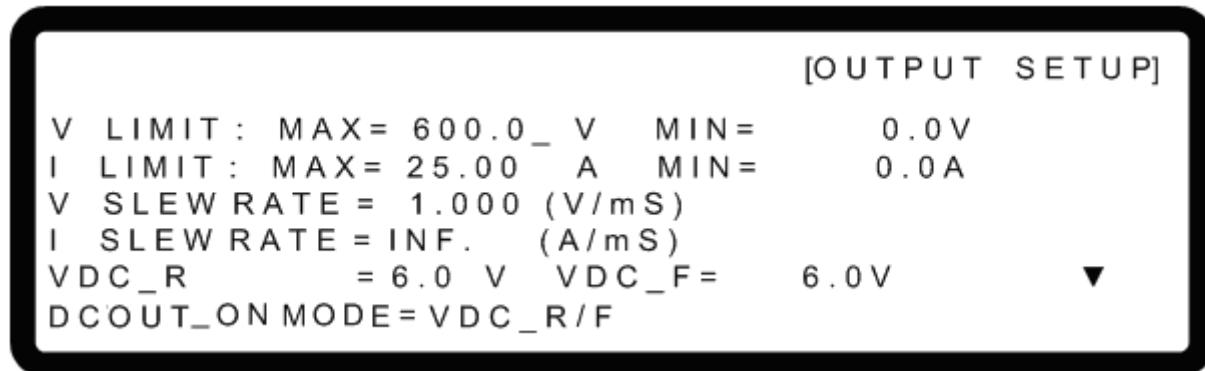

Figure 3-15
1. In the Config Setup page, press “” then “” to enter into the Output Setup screen as shown in Figure 3-15.
Notice The values in Figure 3-15 are the default settings of the 62150H-600S.